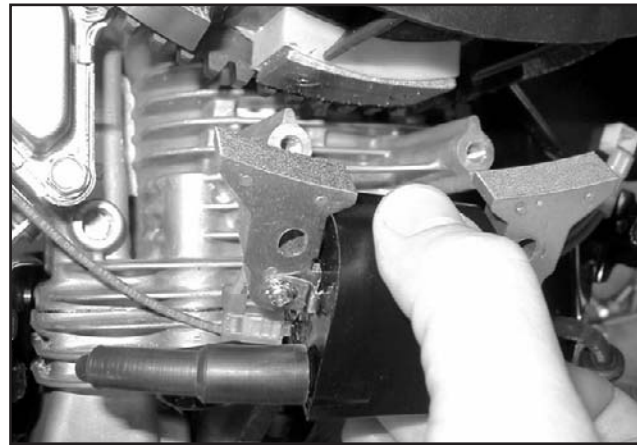

Figure 2-5. Removing Ignition coil
5. Remove ignition coil screws and lift of ignition coil(s). See Figure 2-5.